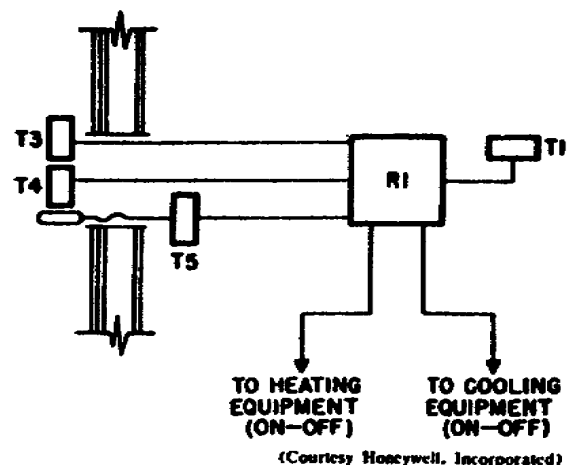

Figure 135. Two-position heating and cooling system.
9. Summer-Water Compensation for a Two-Position Heating or Cooling System. Controller T₅ shown in figure 135 will select either the summer or winter compensation schedule. This selection depends upon the outdoor temperature.